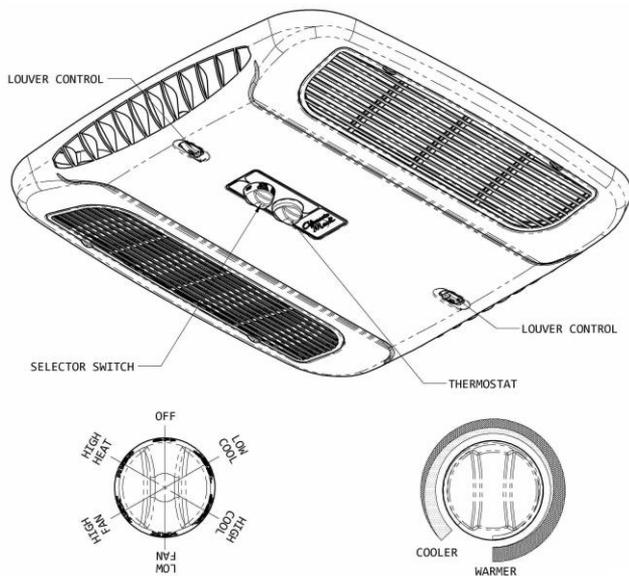

Figure 1
**A. The Selector Switch** – The selector switch determines which mode of operation the heat pump will be in. By rotating the selector switch, the operator can obtain any system function desired. System functions vary depending upon options of both the roof top unit and ceiling assembly. Figure 1 shows selector switch location and lists all available functions by model. The "Operation" section explains the operational characteristics of each mode of operation.
For “Heat/Cool” models, the thermostat also controls the “ON” and “OFF” temperature settings of the heater assembly (See Figure 1).
**I. For Cooling** (Refer to Figure 1, page 9).
**IV. For Heating Operation** (Refer to Figure 1, page 9).
**V. For Air Circulation Only** (Refer to Figure 1, page 8).